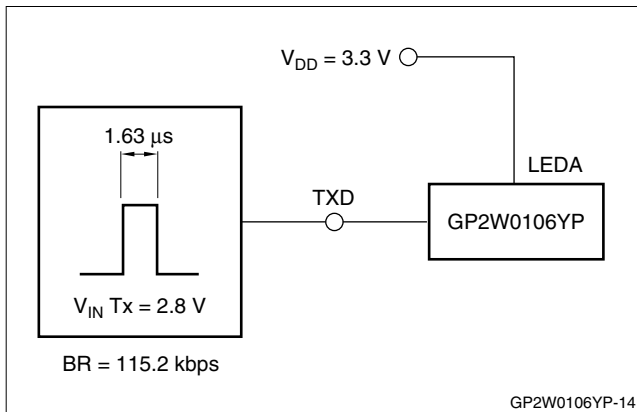

Figure 14. Recommended Circuit (Emitter Side)
3. LED ON. See Figure 14.
4. LED OFF. See Figure 14.